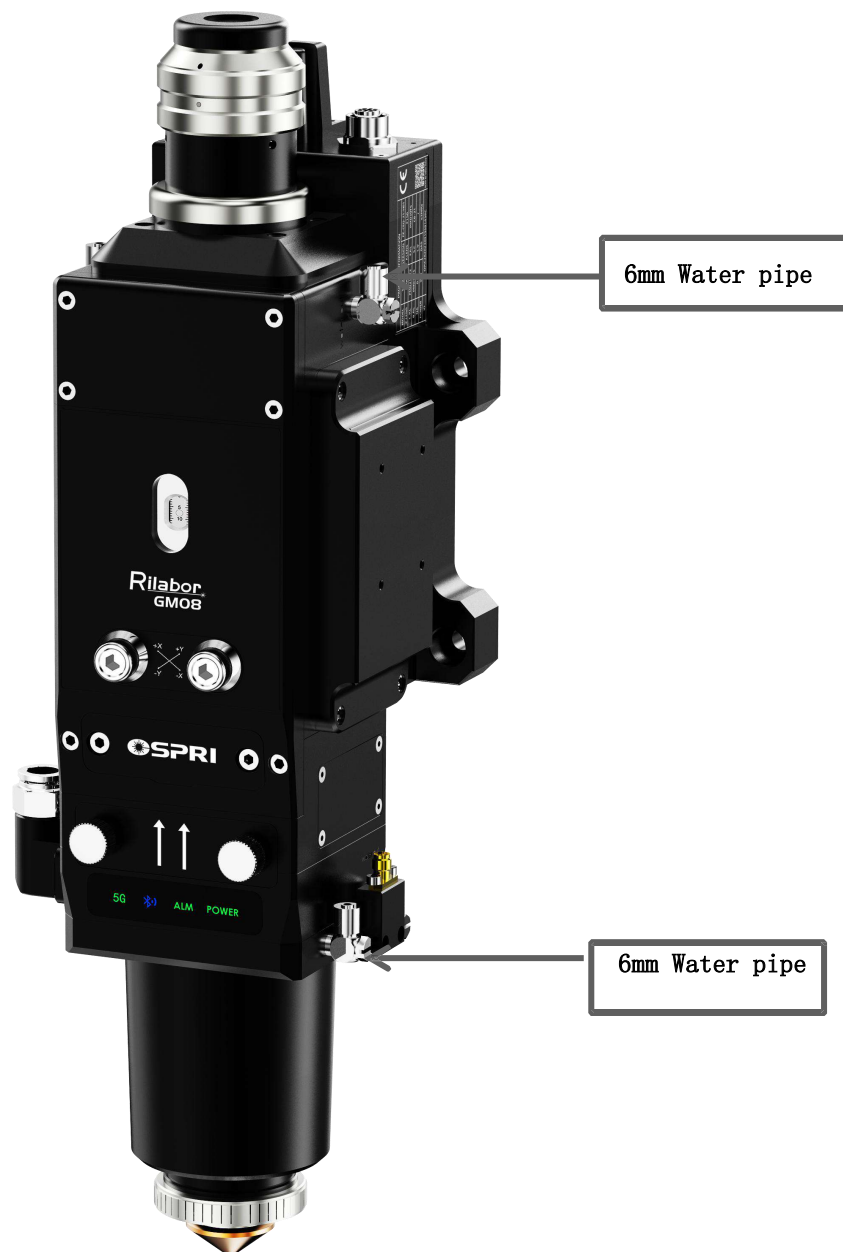

Figure 1.4
- ① Used for cooling the QBH and cutting head, with one inlet and one outlet cooling pipeline, as shown in Figure 1.4: